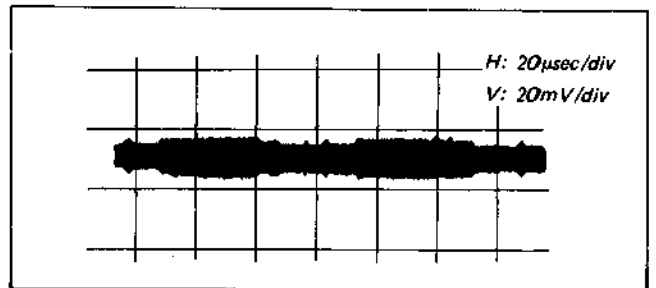

Fig. 4-4-12. Comb filter adjustment
- (3) Connect the oscilloscope to TP21 (junction of R191 and R192).
- (4) Adjust LV1 and RV19 alternately for minimum level of the chroma signal. (See Fig. 4-4-12.)